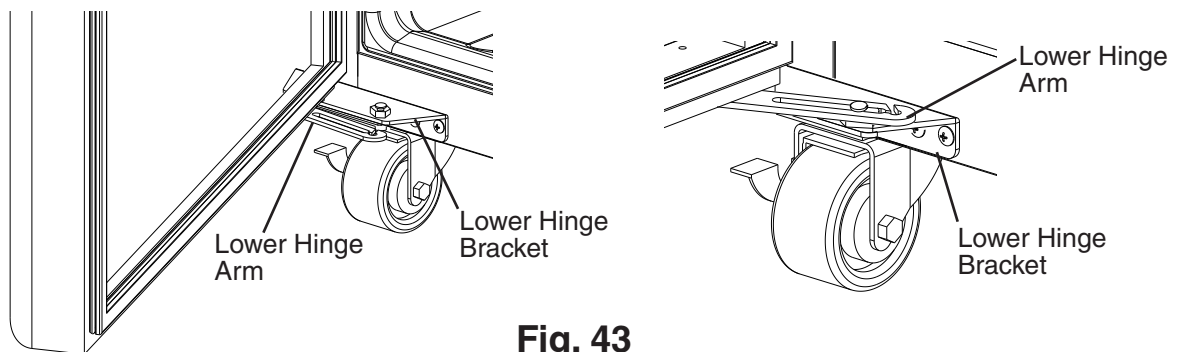

Fig. 43
18) Open the door and connect the lower hinge arm to the lower hinge bracket. See Fig. 43.